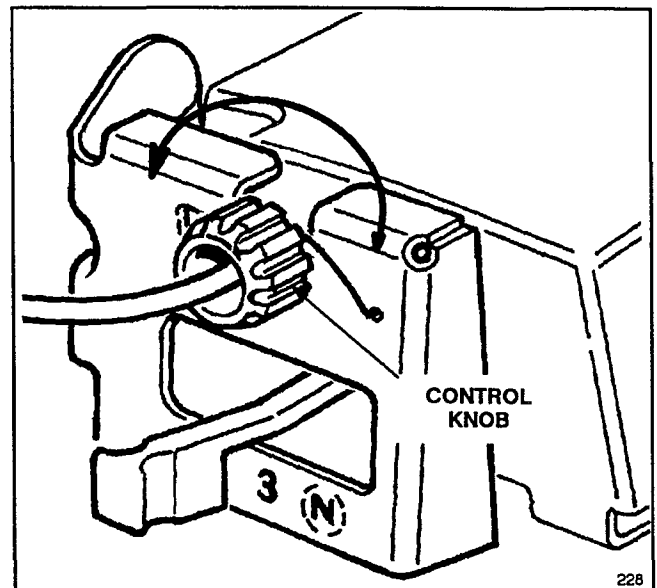

Figure 23
2. ADJUSTMENT (Fig. 23)—Rotate control knob clockwise 1/2 turn if mower does not self-propel. If mower creeps forward, rotate knob 1/2 turn counter-clockwise to loosen belt.